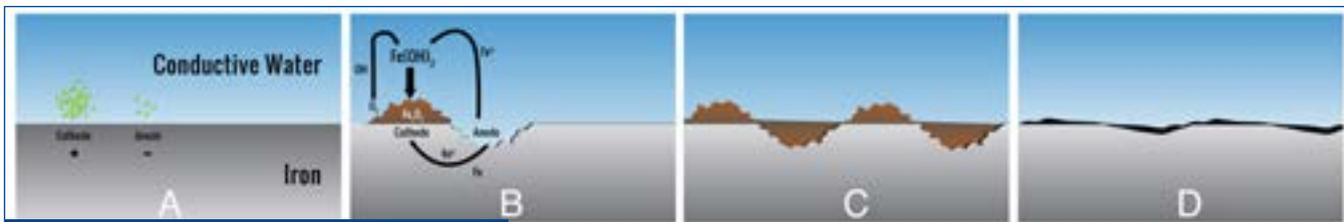

Figure 4 Corrosion process on a water/iron interface
Different concentrations of dissolved oxygen create a galvanic cell (A) as shown in *Figure 4*. The surface at the higher oxygen concentration becomes more noble (cathode) relative to the surface at the lower oxygen concentration (anode). A set of simultaneous chemical reactions occur, which result in depletion of metal at the anodic site and an accumulation of iron oxide at the cathodic site (B). The iron oxide residue begins to impede further corrosion so the formerly anodic site itself becomes both anodic and cathodic and corrodes. This continues until a somewhat uniformly corroded surface takes shape (C). The iron oxide that results is hematite (Fe_2O_3). It is reddish in colour, loosely adhering, porous, conducts heat
As previously mentioned, oxide accumulation can impede further corrosion. If the initial oxygen level within a hydronic system containing iron is low, a relatively thin, protective magnetite layer forms, as shown in Figure 4. Magnetite formed in this manner is ideal. It is dense, tightly adhering, conducts heat well and impedes further corrosion. Similar protective oxide layers form on other metal surfaces such as stainless steel, copper, and aluminum. To provide an added safeguard, some manufacturers oxidize or acid passivate the internal surfaces of products before they leave the factory.